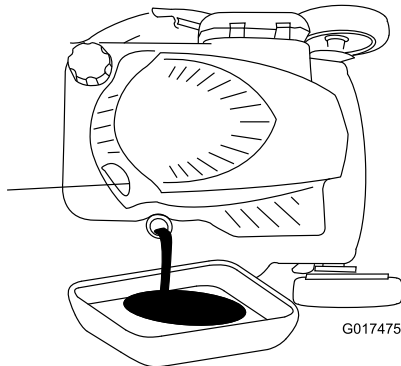

Figure 37
5. Tip the mower onto its side, with the dipstick down, to drain the used oil out through the oil fill tube (Figure 37).